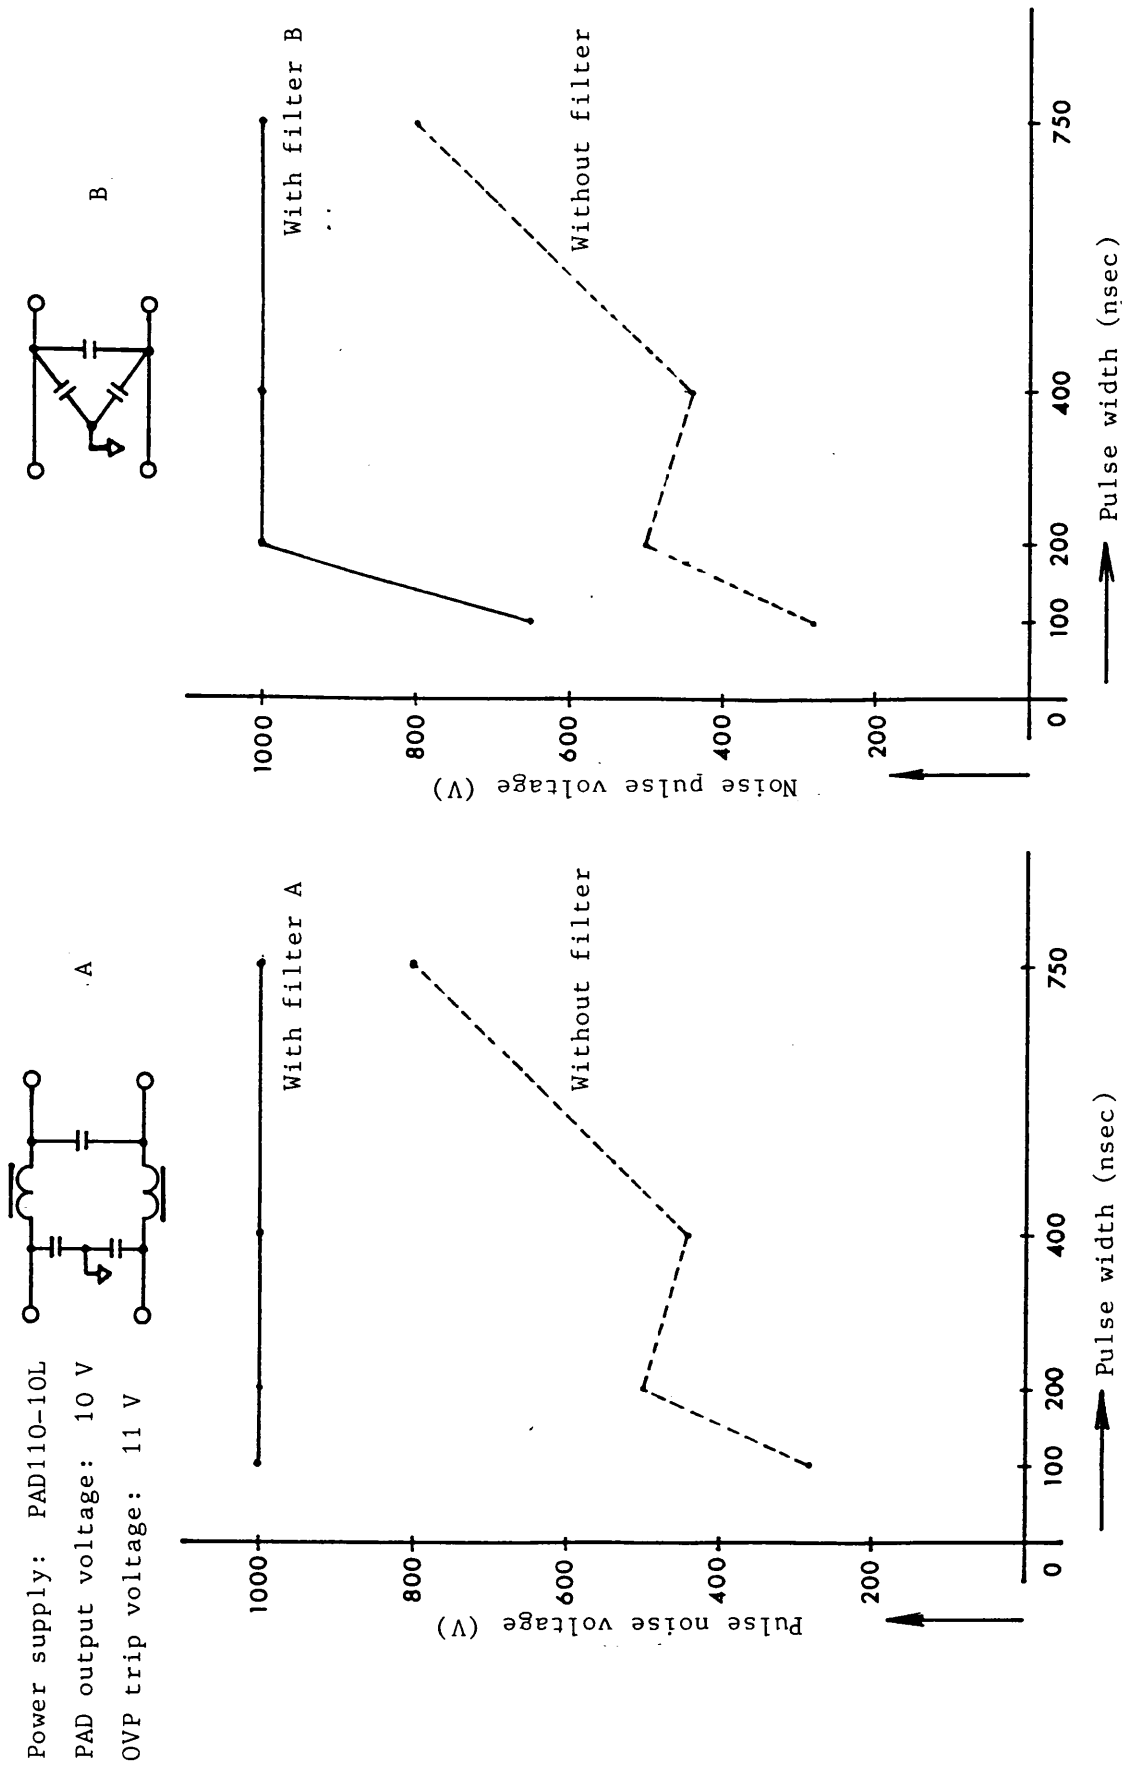

Figure 9
Filter A renders an excellent filtering effect against AC line noise. However, reactors (L) for large current are expensive. Filter B is more economical but renders a sufficient filtering effect. (See Figure 9.)